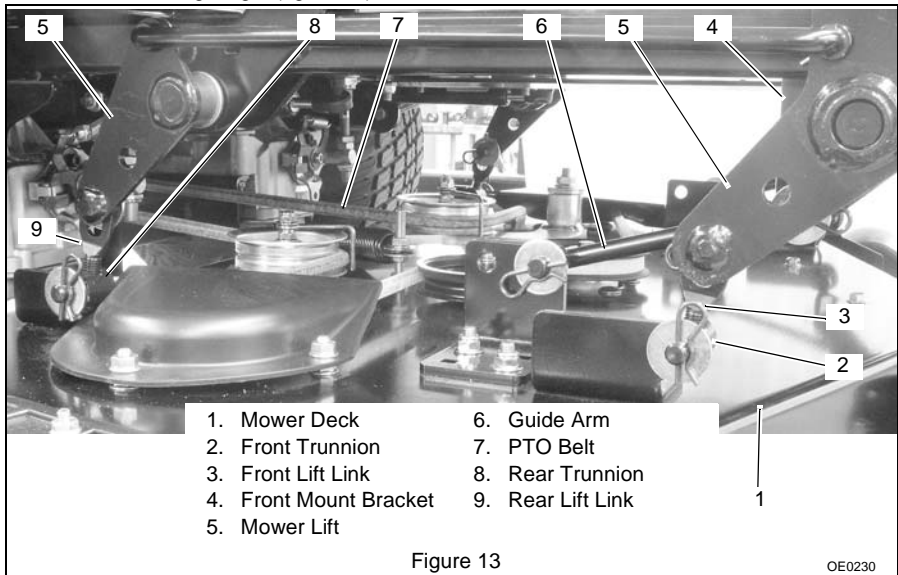

Figure 13
5. Remove rear lift link and rear trunnion from mower deck and mower lift (figure 13).
6. Install rear trunnion and rear lift link on mower deck and mower lift (figure 13).
5. Remove front lift link and front trunnion from mower deck and mower lift (figure 13).
6. Install front trunnion and front lift link on mower deck and mower lift (figure 13).
Remove (Figure 13)
Install (Figure 13)